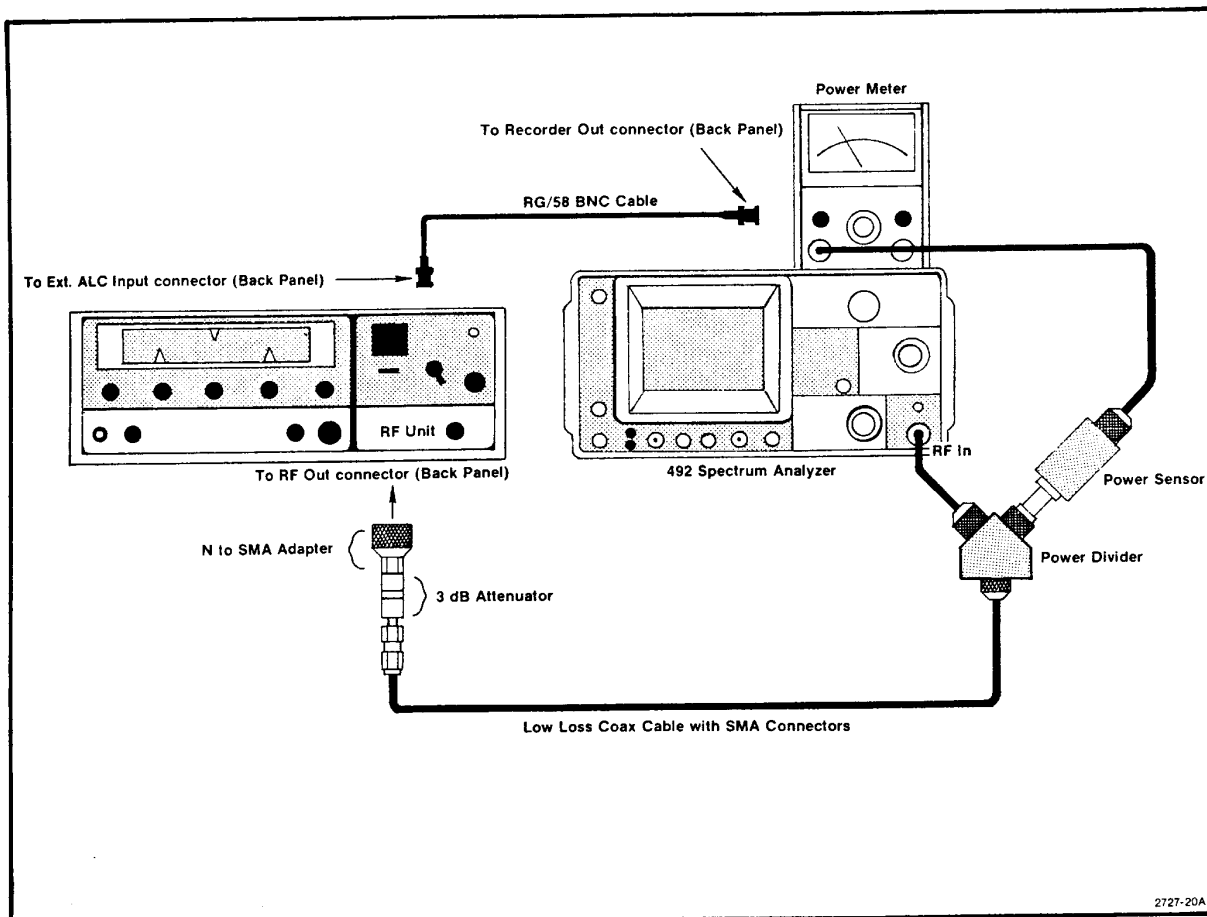

Fig. 3-7. Test equipment setup for measuring 2.0—18.0 GHz frequency response.
k. Replace the 0.01 to 2.4 GHz sweep source with a 2.0 to 18 GHz sweep oscillator. Connect the test equipment as shown in Fig. 3-7. Switch the RF plug-in ALC to Mtr. Connect a coaxial cable between the Recorder Output of the power meter and the RF plug-in Ext ALC Input. Decrease the Power Level to approximately  $-6$  dBm and adjust the Gain for stable operation (output stops oscillating).
k. Replace the 0.01 to 2.4 GHz sweep source with a 2 to 18 GHz sweep oscillator. Connect the test equipment as shown in Fig. 3-7. On the RF plug-in, switch the ALC to Mtr position and connect a coaxial cable between the Recorder Output of the power meter and the Ext ALC Input of the plug-in unit. Decrease the Power Level to approximately  $-6$  dBm; then adjust the Gain for stable operation (output stops oscillating).